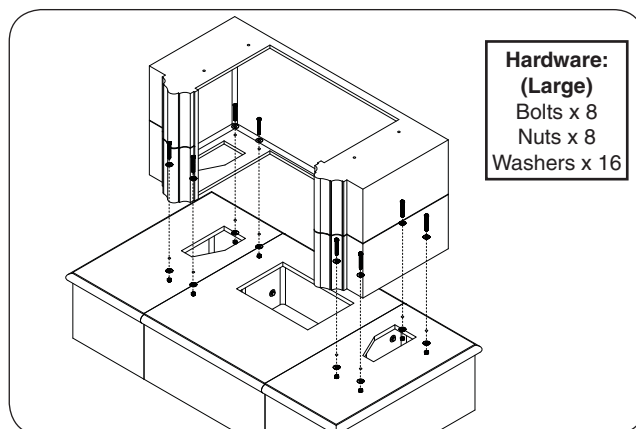

Fig. 17-1 Assemble base body
1. Place the base body piece on top of the hearth. Carefully align the pilot holes, insert the hardware (large hardware kits) in the order shown, and only hand tighten at this stage. See Fig. 17-1.